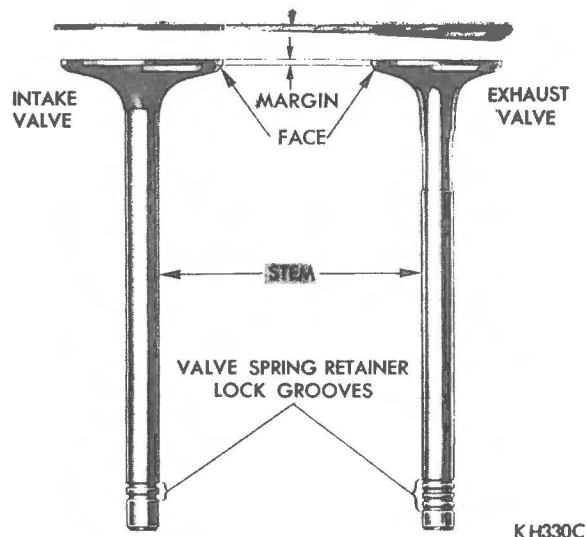

Fig. 14 - Intake and exhaust valve.
(2) Inspect the remaining margin after the valves are re-faced (Fig. 14). Valves with less than  $\frac{3}{64}$ " margin should be discarded.
(3) When refacing the valve seats, it is important that the correct size valve guide pilot be used for reseating stones. A true and complete surface must be obtained.
(4) Measure the concentricity of the valve seat using a dial indicator. The total run-out should not exceed .003" (total indicator reading). When the seat is properly positioned, the width of the intake seats should be  $\frac{5}{64}$ " to  $\frac{3}{32}$ ". The width of the exhaust seats should be  $\frac{3}{64}$ " to  $\frac{1}{16}$ ".